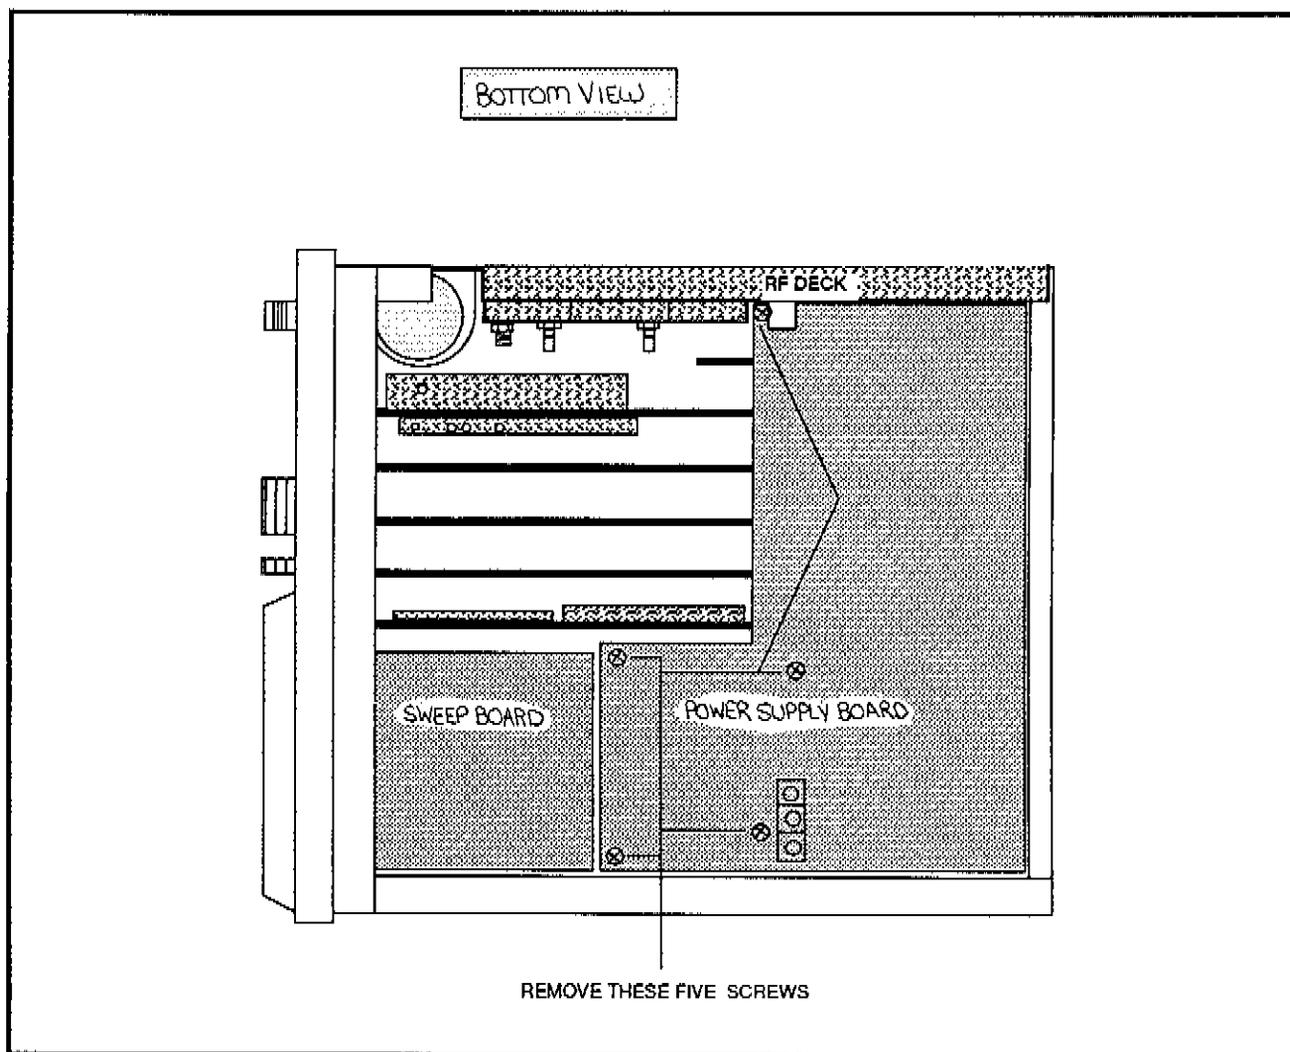

Figure 5-10. Power Supply board removal.
11. Remove five screws as shown in Figure 5-10).